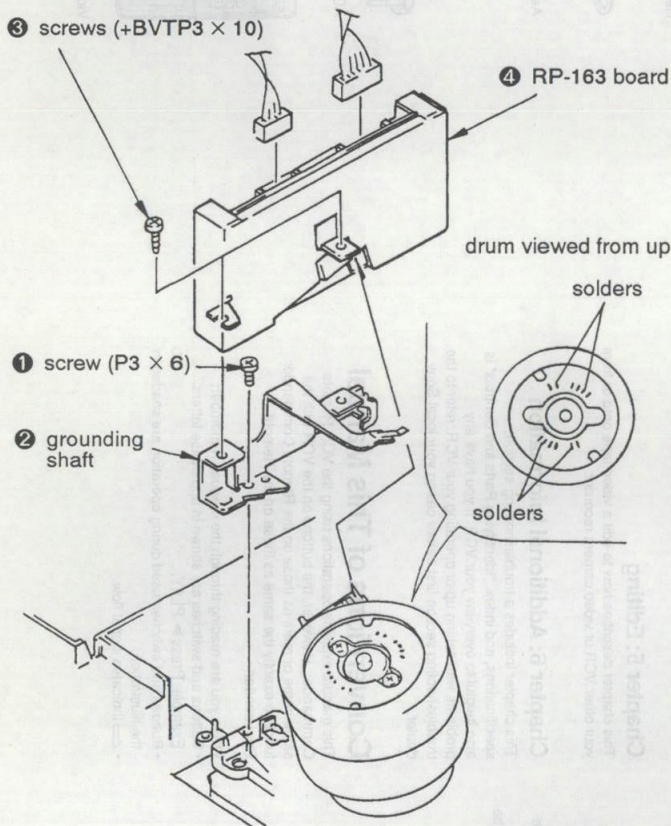

Fig. 4
- 1) Remove the screw ① (+P3 × 6) and take out the grounding shaft ②. (See Fig. 4.)
- 2) Remove the two screws ③ (+BVTP 3 × 10) and take out the RP-163 board ④. (See Fig. 4.)